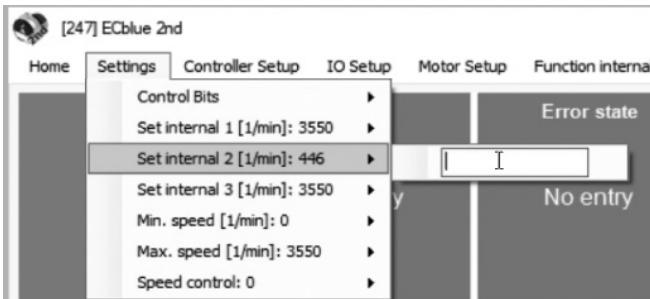

Fig. 20 – ZA – Settings ECblue 2nd Window – Set Internal 2 [1/min]
11. The last step is in the **Settings** tab of the **ECblue 2nd** window, go to **Set internal 2 [1/min]**. Input the dissipation (rpm) fan speed corresponding to the ZA fan part number in Table 5 (see Fig. 20).